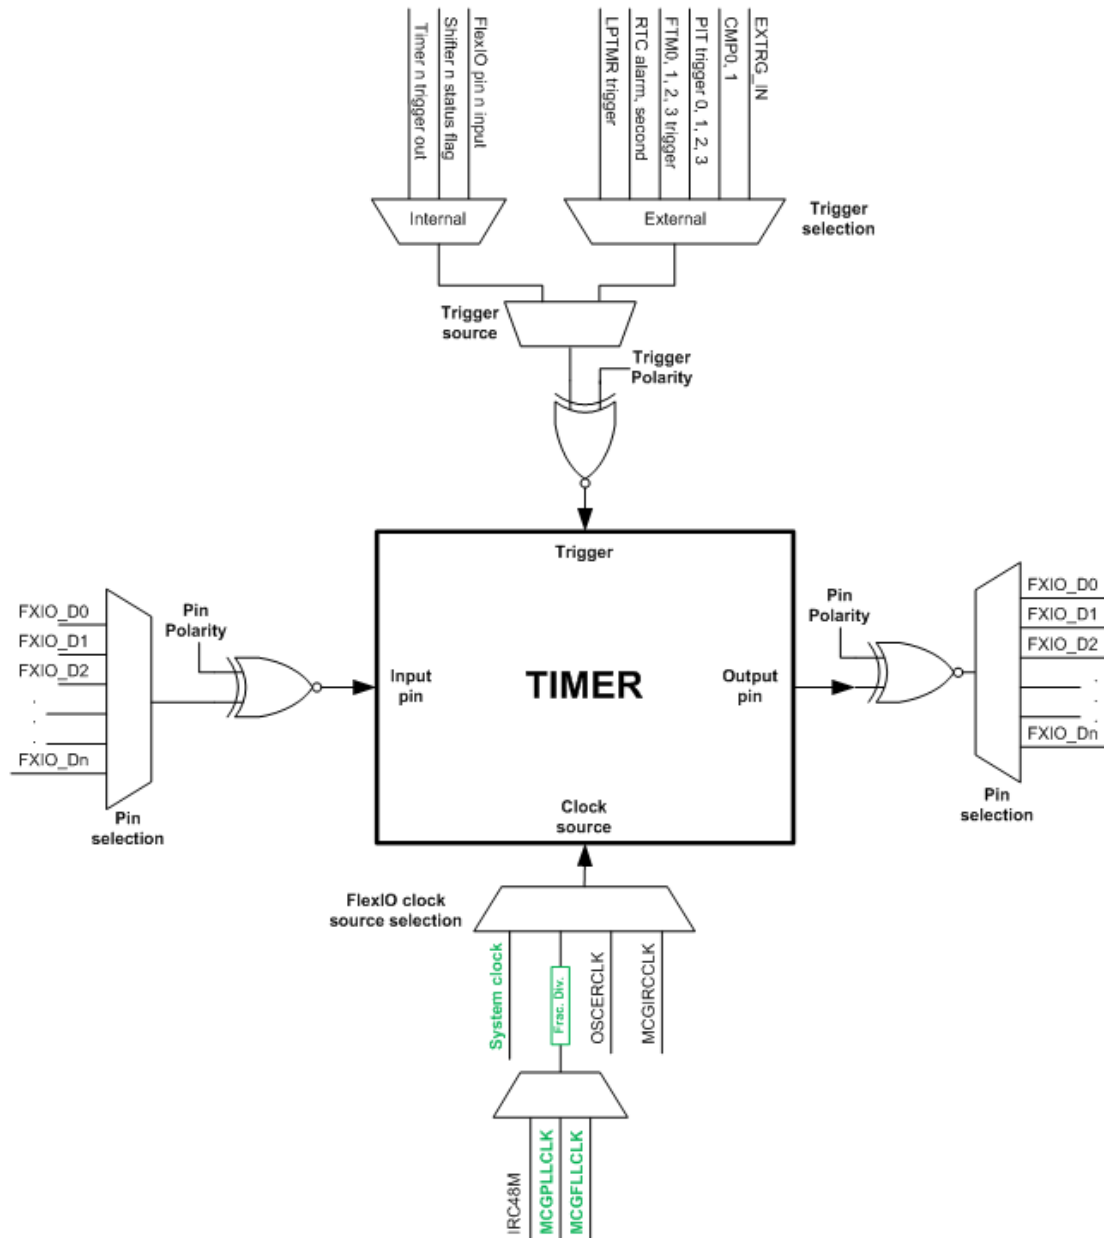

Figure 3. FlexIO Timer Diagram
*Figure 3* shows a diagram of a FlexIO timer. When a FlexIO shifter is used, it is controlled by one of these timers. The timer controls when the shifting occurs, and when the shifters are loaded with new data. The timer modes provide options in controlling these shifters, including a baud rate control. The baud rate control gives the timer more flexibility in the timing of the shifts relative to the clock source. The `flexio_lcd` driver uses these timer features and shifter control to generate the LCD timing signals.